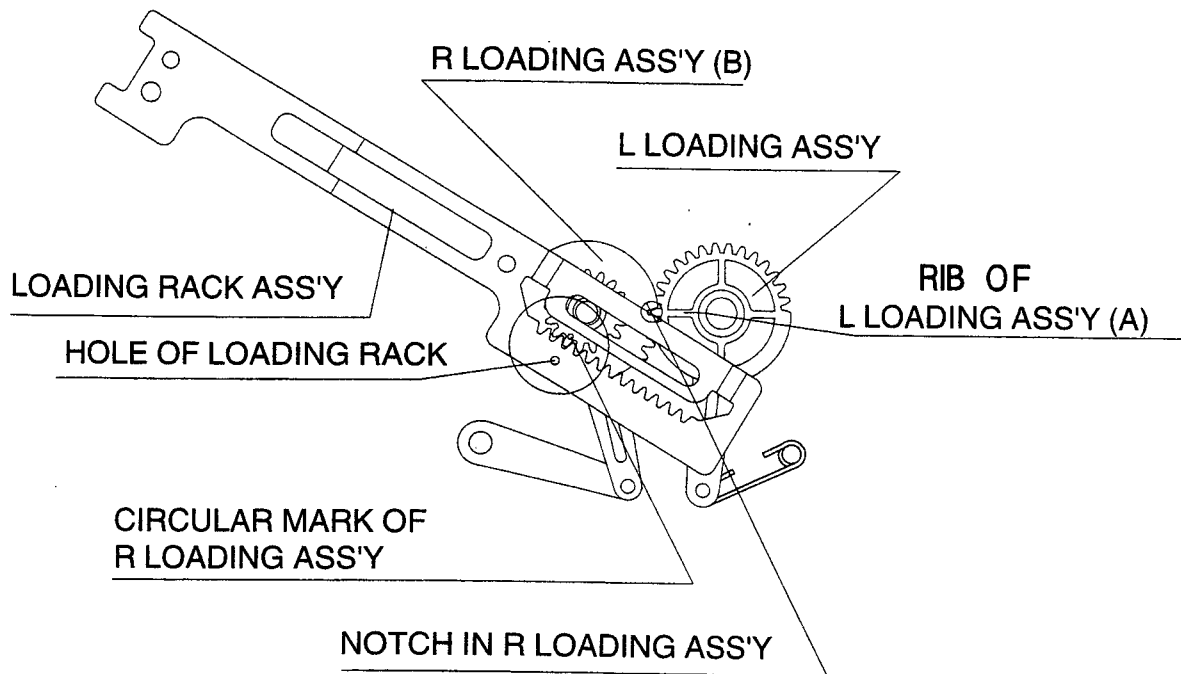

Fig.4-5 DATUM POSITION OF LOADING RACK ASS'Y & R/L LOADING LEVER ASS'YS
- e. Make sure that the RIB "A" of the L LOADING ASSEMBLY is aligned with the notch "B" on the R LOADING ASSEMBLY as shown in Fig. 4-5.
- f. Make sure that the teeth of the LOADING RACK ASSEMBLY are aligned with those of the R LOADING ASSEMBLY so that the hole of the LOADING RACK ASSEMBLY aligns with the circular mark on the R LOADING ASSEMBLY, as shown in Fig.4-5.